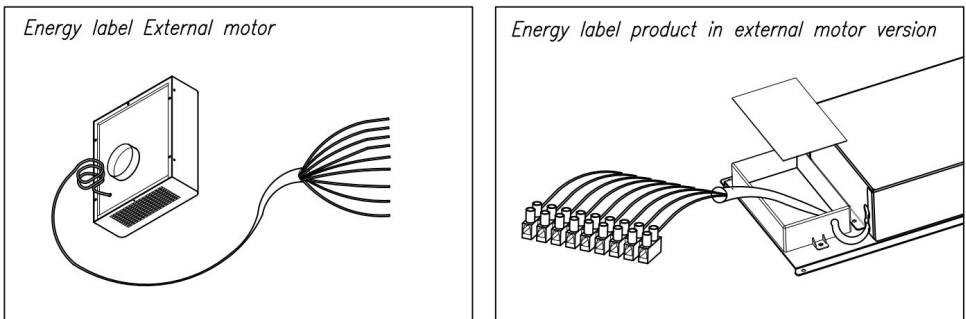

Fig. 25
11. Connect the internal motor or the external motor's cable to the terminal board found inside the plastic box of the downdraft wiring. Make sure to respect the colors of cables when performing the electrical connection (Fig. 25).